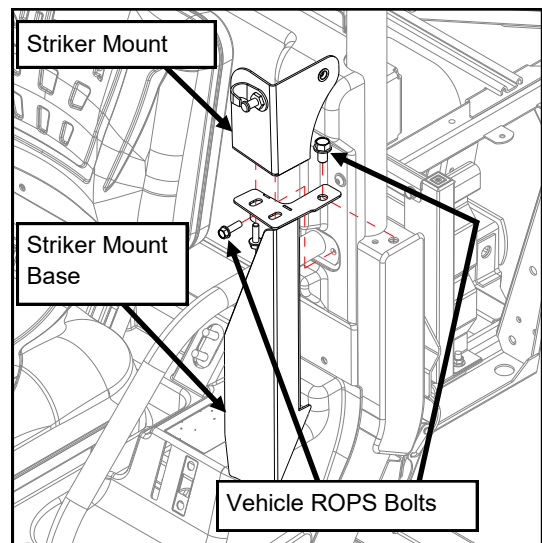

Fig. 2
2. Remove lower rear ROPS bolt (M12) and upper rear hip restraint bolt (M8) on left side of vehicle. Save the (M12) for re-use. (see fig. 2)
3. Loosely install the Striker Mount onto Striker Mount Base using (2) 5/16-18 hex flange screws. Note: Screws should initially be located roughly in the center of the slots and finger tight. Later, during door installation, the striker mount may need to be adjusted.
4. Install Striker Mount Base using the (M12) vehicle ROPS bolt removed in step 2 and (1) of the supplied M8 X 25LG hex flange screw, replacing the upper rear hip restraint bolt. Note: Be sure to press the bottom of the striker mount base against the lower vehicle ROPS to compress the pre-installed foam tape while tightening the fasteners.